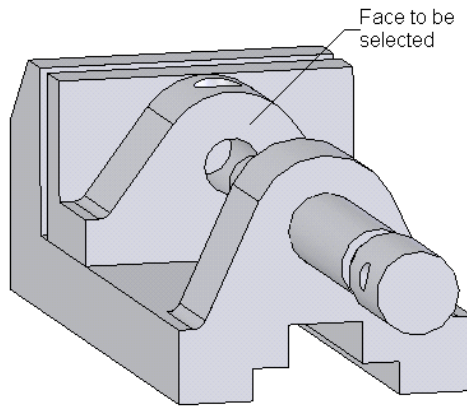
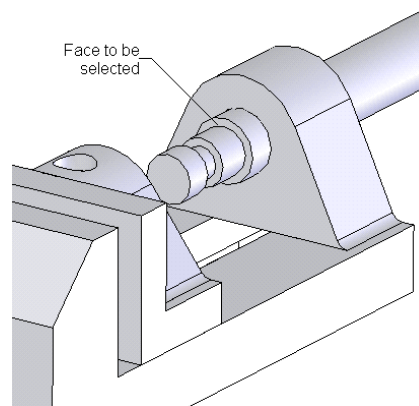

Figure 10-62 Face to be selected
Figure 10-63 Face to be selected
9. Rotate the assembly view and select the face of the Vice Jaw, as shown in Figure 10-62. Next, select the face of the Jaw Screw, as shown in Figure 10-63.